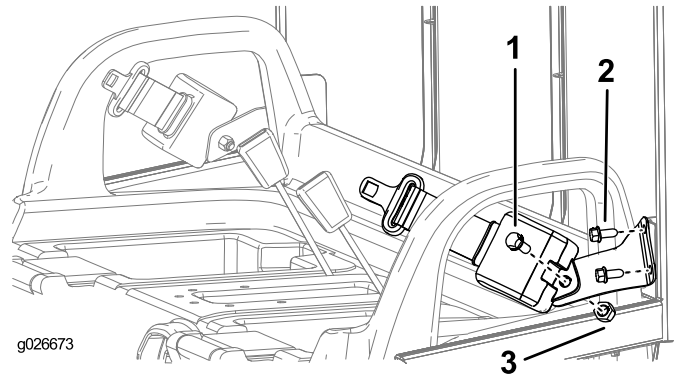

Figure 7
1. Mount a seat belt bracket to each ROPS tab with 2 bolts (3/8 inch) as shown in Figure 7.
3. Mount the retractable end of each seat-belt assembly to each seat-belt anchor bracket with a bolt (7/16 inch) and a nut (7/16 inch) as shown in Figure 7.